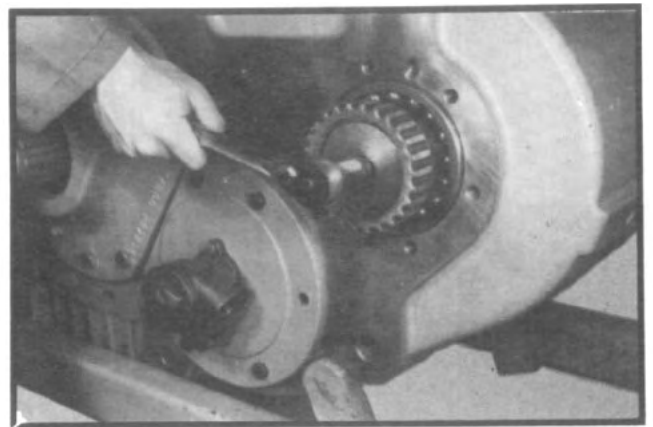
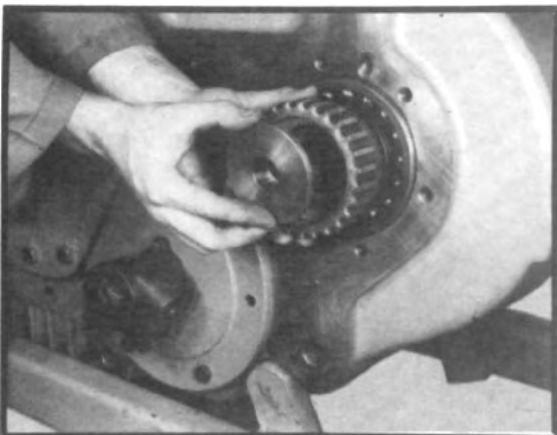

Fig. 24
Fig. 25
3. If transfer case is equipped with a PTO or direct pump drive, remove locking bolt from rear of shaft. (See fig. 24.) Remove special washer, declutch gear and spacer washer from rear of shaft. Discard locking bolt, which should be replaced for assembly. (See fig. 25.)